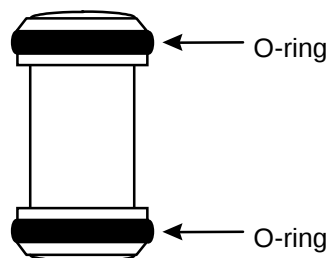

Figure 4-4: O-Rings Positioned on Rocker Pin
1. Place an O-ring on each end of the rocker pin, positioning them as shown in Figure 4-4.